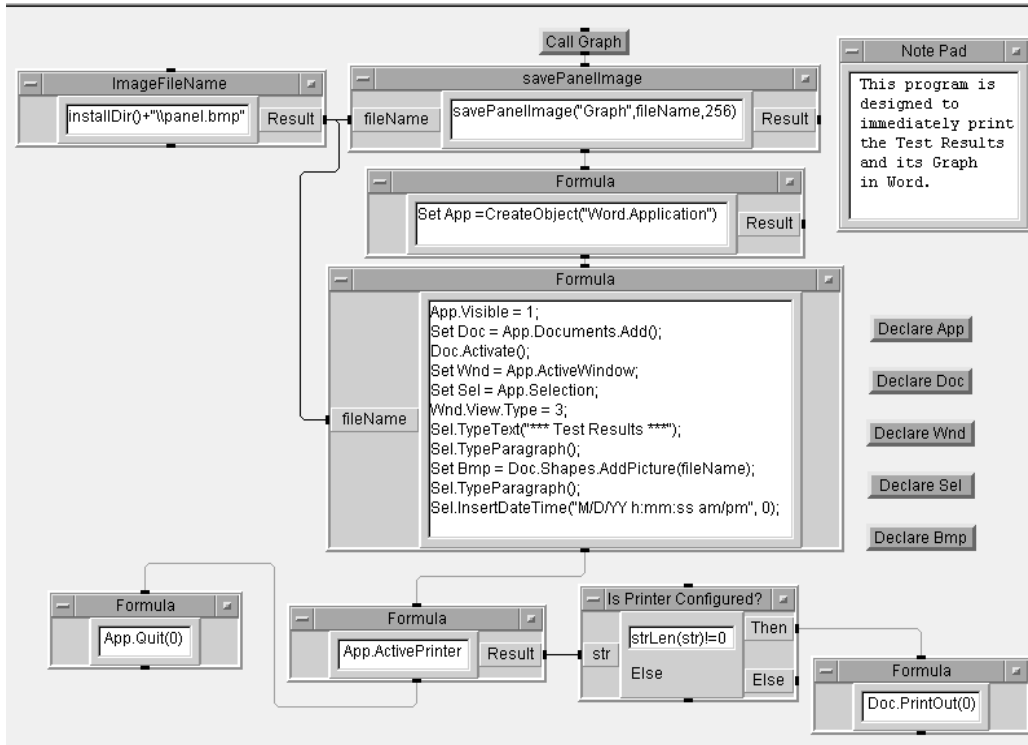

Figure 9.14. The complete Lab 9.4 program
8. Connect the four objects as shown in Figure 9.14; change the formula expressions as shown in Figure 9.14; you must delete terminals on some of the Formula objects.